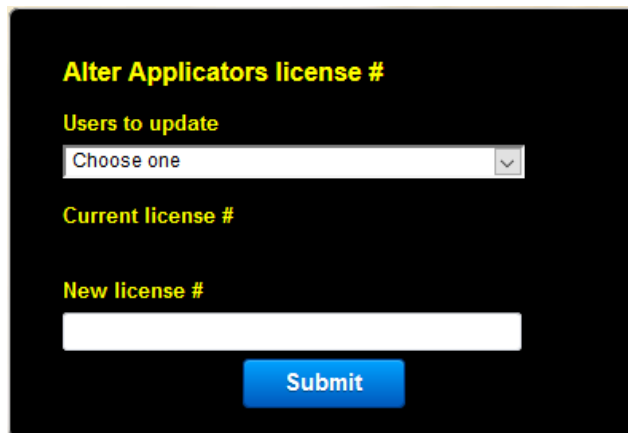

Fig. 17
1. This form allows you to update a user's license number. (See fig.17) Often you may have assistant growers working under your license number until they get their own. This will allow you to change it.